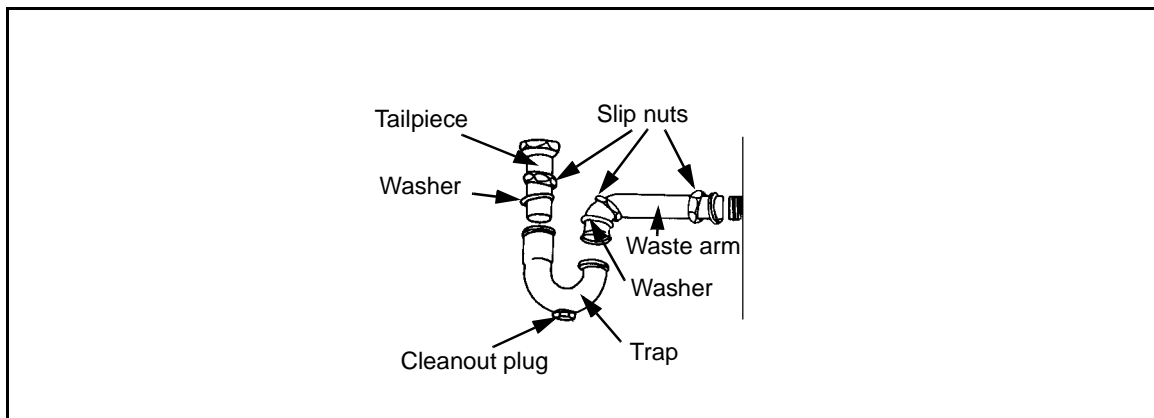

Figure 4-14. P-Trap Connection
**Step 4.** Connect the P-trap between the rough-in waste outlet and the tailpiece (*Figure 4-14*). All connections should be made with washers and slip nuts to form leakproof joints.